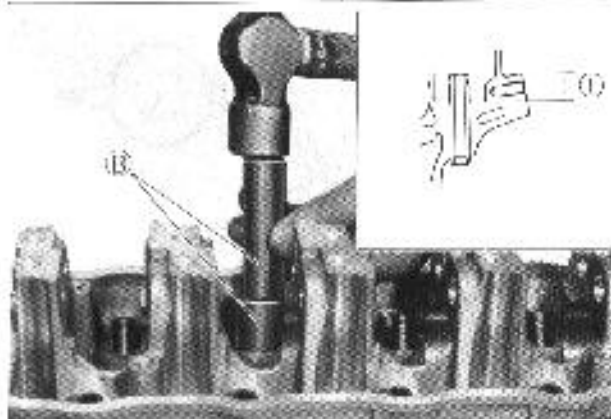

Fig. 3-60
- 2) Heat the cylinder head uniformly to any where between 80°C and 100°C (176°F-212°F) so that the head will not distort, and drive the oversize guide into the hole with the valve guide installer set (B) (09916-57310 and 09916-57320). See Fig. 3-60. Be sure to carry out this step speedily so that all guides will go into the cylinder head in steady temperature state.